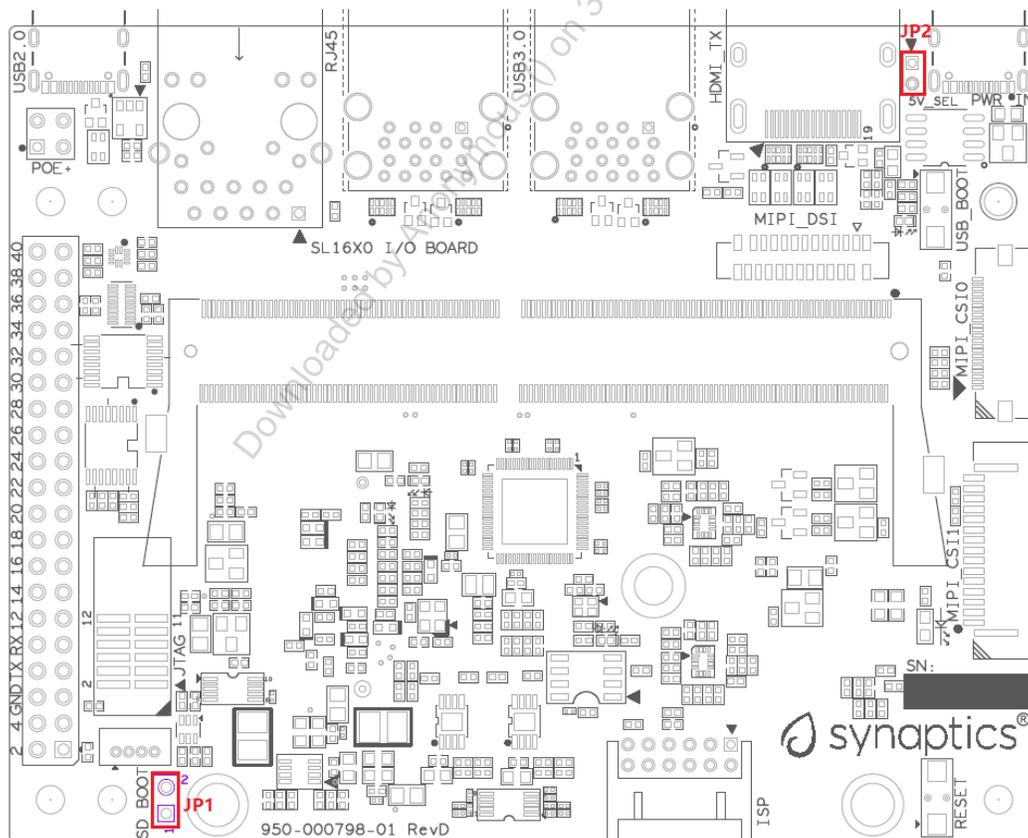
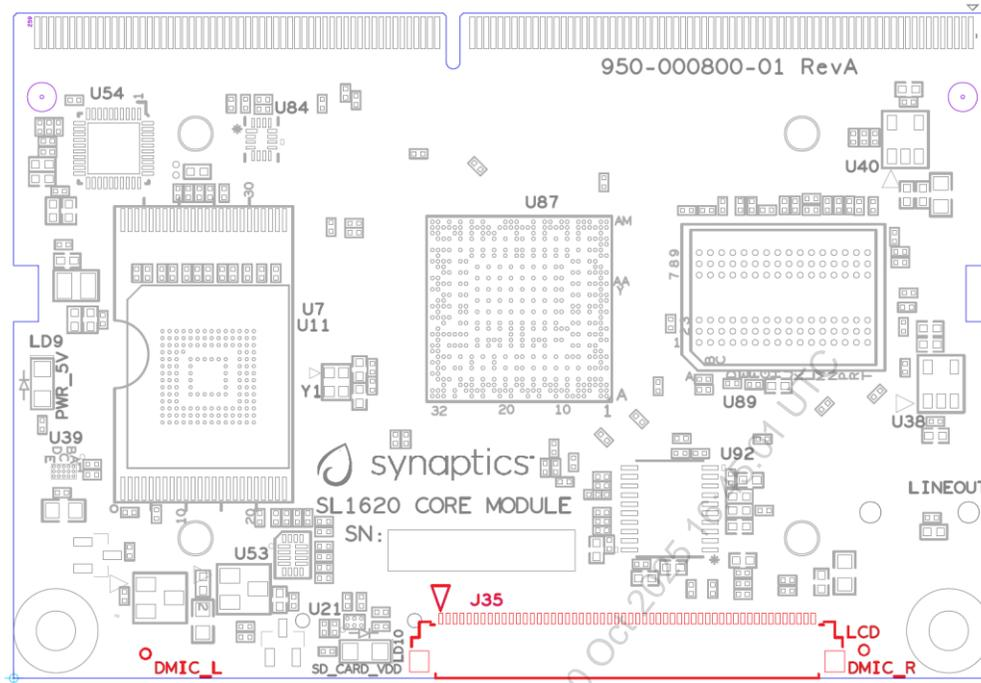

Figure 9. Locations of jumpers on I/O board
Figure 10. Location of connector on the top side of the core module
- **SD boot:** Short SD\_Boot header by 2.54mm jumper-cap before power-up, see SD\_Boot header in Figure 9. Ensure SD-Card with firmware is plugged into SD-slot on core module in Figure 10.
Figure 9 shows the Header locations on the I/O board.